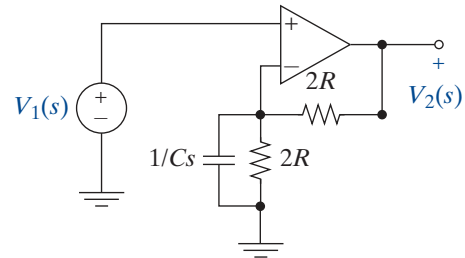

FIGURE P11-7
- 11-7 Find the driving point impedance seen by the voltage source in Figure P11-7 and the voltage transfer function $T_V(s) = V_2(s)/V_1(s)$.